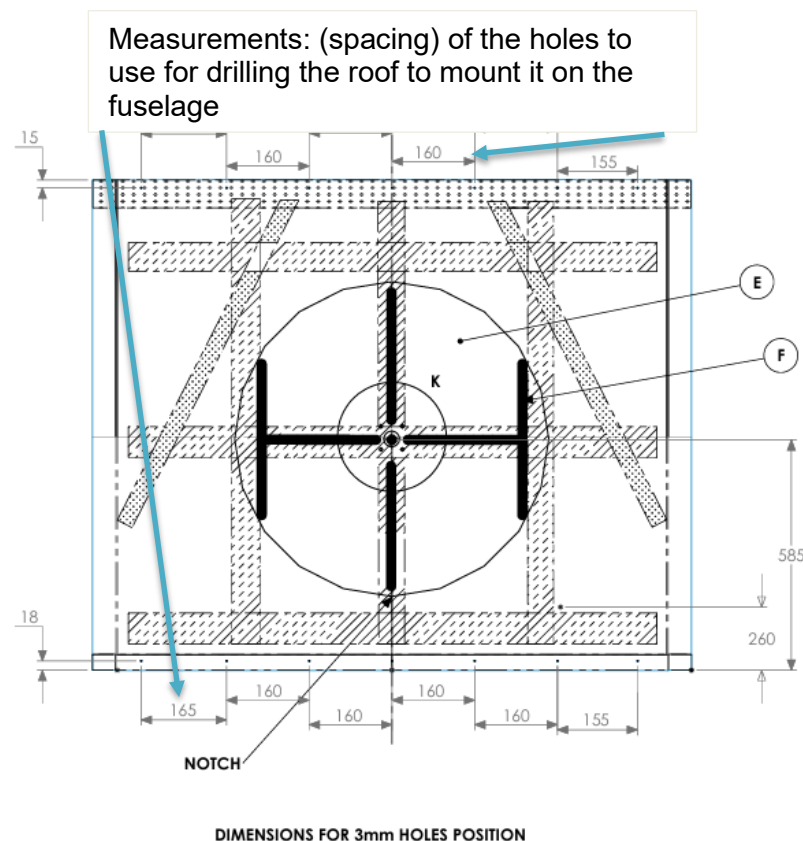

Figure 27: Measurements: (spacing) of the holes to use for drilling the roof to mount it on the fuselage.
- Step 2: Use the measurements on Figure 27 for the mounting holes.